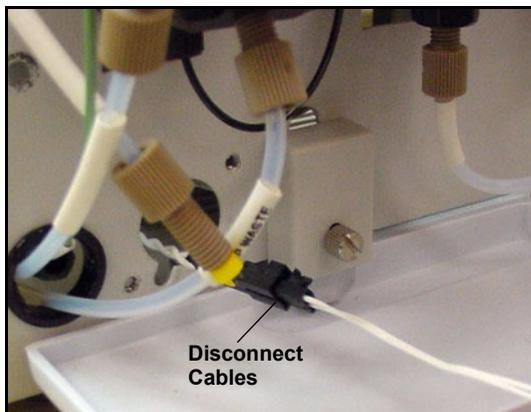

Figure 5-24. Eluent Valve Cable
- The cable connects to a cable inside the ICS-2000. Continue pulling until the connectors for the two cables are outside the panel (see Figure 5-24). Disconnect the cables.